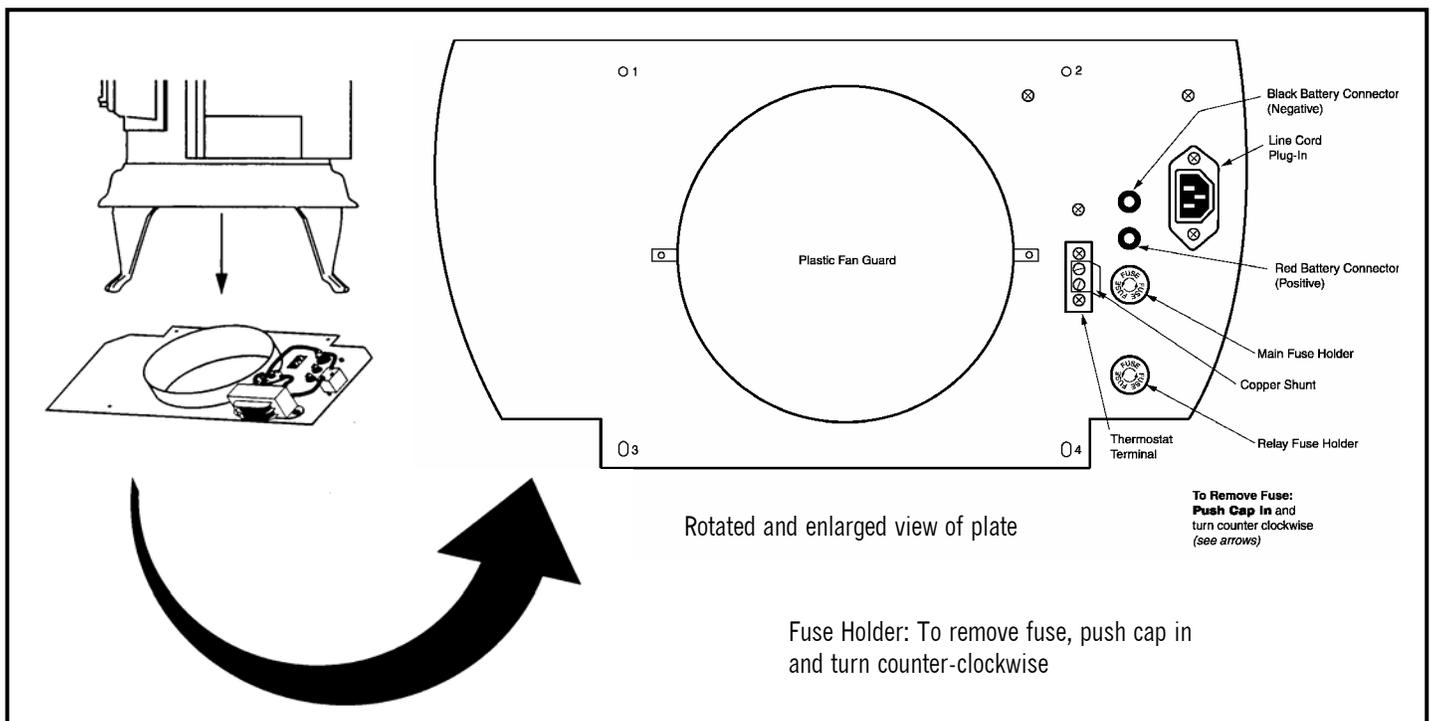

FIGURE 9
This unit has been approved for use with a **3" and 4" Type L Pellet Vent System**. On runs in excess of 10' and installations per Figure 9, the 4" pipe must be used.
- 2. Hook up the thermostat wires to terminals (see Figure 9). Remember to remove copper shunt. Replace shunt if thermostat hook-up is disconnected. If a remote thermostat is used you will have to mount the "receiver" to the bottom of the stove with Velcro and then hook up receiver wires to the terminal (see Figure 9). Follow thermostat manufacturer's instructions.
A wall or remote thermostat can be hooked to run the Parlour 3000 E.I. automatically. The following is a step-by-step procedure for installing the optional thermostat. Note connection terminals on the bottom right side of the unit (see Figure 9). Use 18/2 thermostat wire for installation.
If you choose to use a wall or remote thermostat follow the thermostat manufacturers instructions carefully and make sure you use the built in thermostat terminals on the bottom of the stove. (See Figure 9) We recommend you run the heater on "High" for about 30 minutes to get the heat exchanger hot before turning it to "Low." You will need to burn the heater for a few hours before deciding which setting is best for your particular needs.